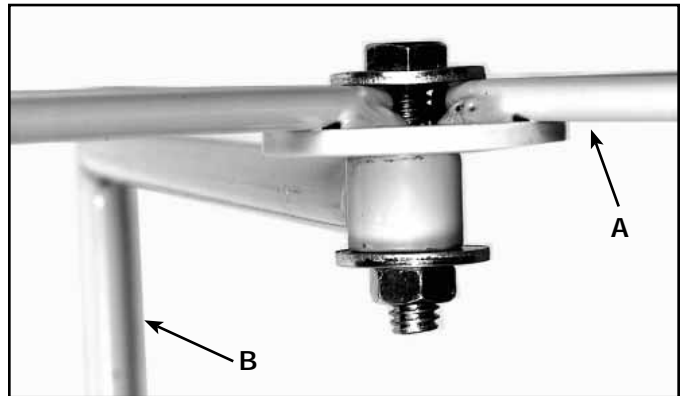
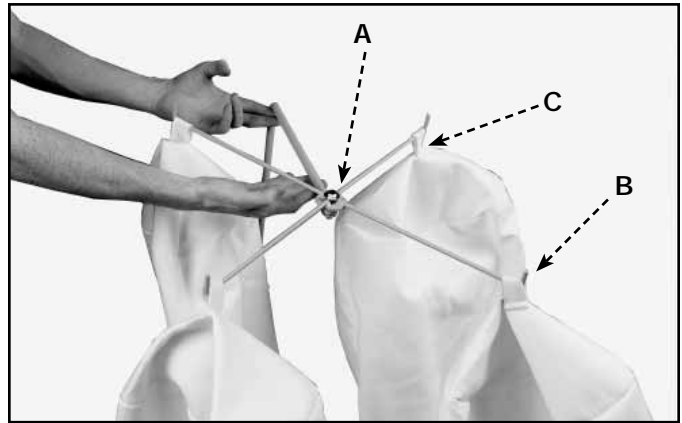

Fig. 12
Fig. 12A
2. Place 3/8" flat washer on 5/16"x1 1/4" hex head screw. Insert the screw through hole in center of bag hanging assembly (A) Fig. 12 and Fig. 12A and through the hole in the upper bag hanging rod (B) Fig. 12. Then place another large 5/16" flat washer on end of screw followed by a 5/16 hex nut. Assembly shown complete in Fig. 12. Tighten all securely with 12mm wrench.
3. Hang bag loops (C) Fig. 12A around hooks on bag hanging assembly (B), as shown in Fig. 12A